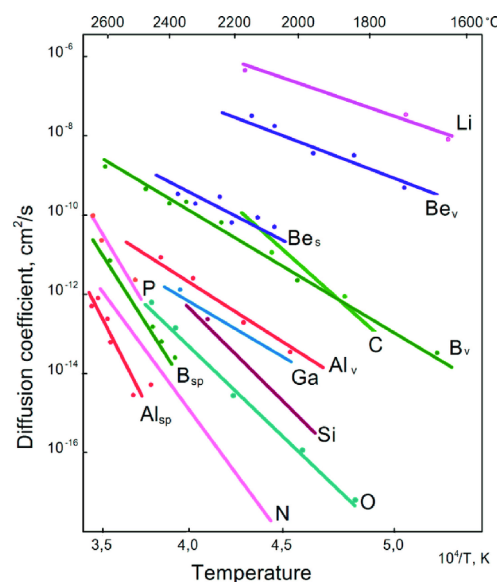

Figure 1 / *Rajah 1* : Dependencies of diffusion coefficients of several elements into SiC / *kebergantungan pekali resapan beberapa elemen di dalam SiC*
- (b). Figure 1 shows dependency of diffusion coefficients of impurities in SiC from vapor phase (Li, Be_v, Be_s, B_v, Al_v, Ga and N) and from SiC solid phase (P, B_{sv}, Al_{sv}). Based on the figure, discuss the TWO (2) factors that influence diffusion.